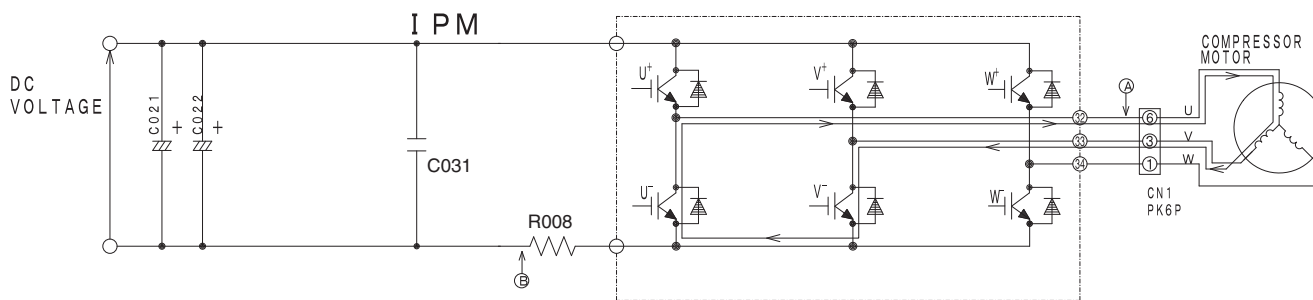

Fig. 9-4 Power module circuit (U+ is OFF, V- is ON)
At point ⑥: U+ is chopped (OFF), V- is ON (circuit in Fig. 9-4)
- (2) When U+ transistor is OFF: (by inductance of motor coil) U coil → V coil → V- transistor → U- diode → Point ⑤ (Fig. 9-4)